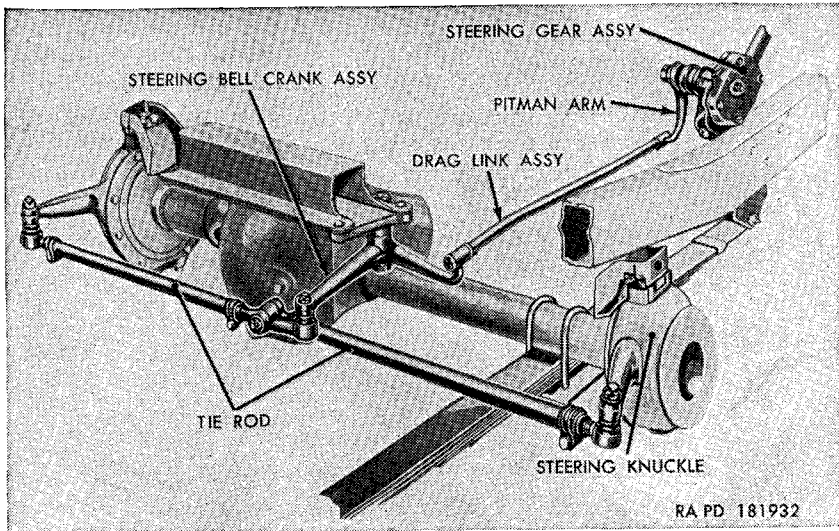

Figure 149. Steering system linkage.
a. Description. The steering system consists of the steering wheel, steering gear, Pitman arm, steering drag link, bellcrank, and two tie rods with ends. Except for the steering wheel and shaft jacket, the entire steering system is shown in figure 149. The steering gear is the cam and twin-pin levertype, and carries a conventional Pitman arm. The drag link is the conventional ball- and socket-type with spring-loaded adjustment. The bellcrank assembly includes needle bearings between the bellcrank and bellcrank shaft. The right tie rod with ends connects the bellcrank to the right steering knuckle arm. The left tie rod with ends connects the left end of the right tie rod to the left steering knuckle arm.
- (1) Remove the cotter pin (A) from the axle end of the drag link assembly (fig. 149). Unscrew, but do not remove, the axle end ball seat adjusting plug (B). Lift the drag link assembly off the ball of the bellcrank.
- (2) Remove the cotter pin (A) from the steering gear end of the drag link assembly (fig. 149). Unscrew, but do not remove,
- (1) Position the gear end of the drag link assembly over the ball of the Pitman arm (fig. 149), making certain that the ball enters between the two ball seats (C). Tighten the gear end ball seat adjusting plug (G). Back off the plug one-quarter turn and until one of the slots is aligned with the holes in the drag link, and install a $\frac{1}{8} \times 1\frac{3}{4}$ cotter pin (A) and spread pin ends.
- (2) Position the axle end of the drag link assembly over the ball on the steering bellcrank (fig. 149), making certain that the ball enters between the ball seat (C) and the ball seat spring (D). Tighten the axle end ball seat adjusting plug (B). Back off the plug one-half turn and until one of the slots is aligned with the holes in the drag link and install a $\frac{1}{8} \times 1\frac{3}{4}$ cotter pin (A) and spread pin ends.